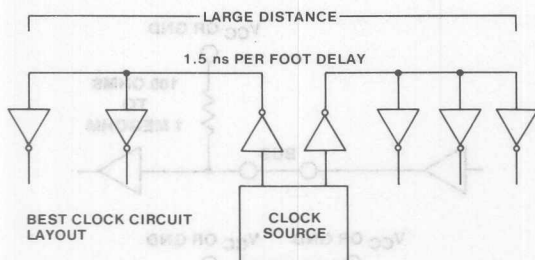

Fig. 37. Recommended distribution of clock or strobe drivers.
3. The designer should distribute clock or strobe drivers in the same IC package as shown in Fig. 37 to further reduce reflections and produce excellent monotonic edge performance.